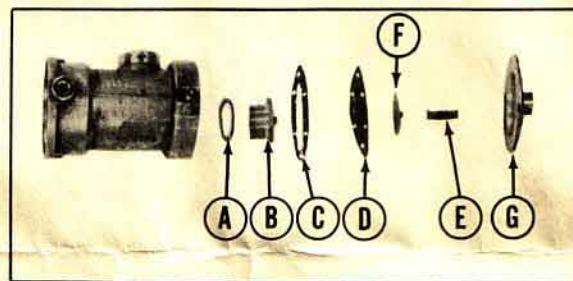

Figure 1.
- (A) 1-425654 Gasket
- (B) 1-425626 Valve
- (C) 1-425656 Gasket
- (D) 1-425645 Diaphragm
- (E) 1-425646 Regulator Spring
1. Place gasket (A, Fig. 1) between regulator valve and pump body.
2. Using a suitable wrench turn valve (B, Fig. 1) clockwise until it is firmly seated.
3. Replace gasket (C), diaphragm (D), regulator button (F), regulator spring (E), and regulator cover (G) as shown in Fig. 1.